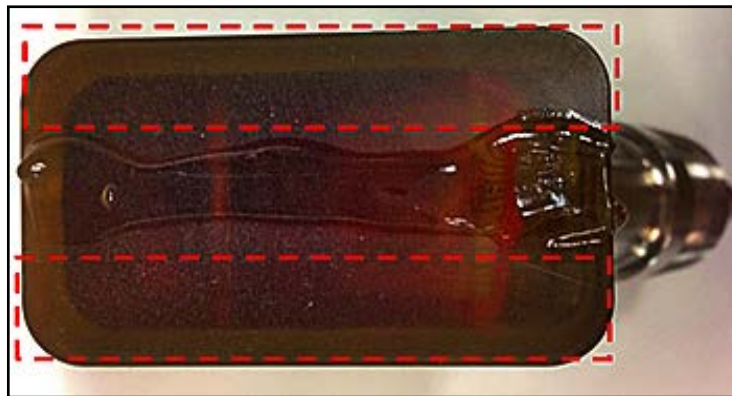

Figure 20: Transducer Face with Couplant
5. Apply the supplied couplant to both transducer faces (see *Figure 20* below). The couplant displaces any air gaps between the transducer and the pipe to ensure a uniform acoustic signal path. For pipes up to 14" OD, do not apply couplant in the red areas shown; for pipes >14" OD, cover the entire surface with couplant.